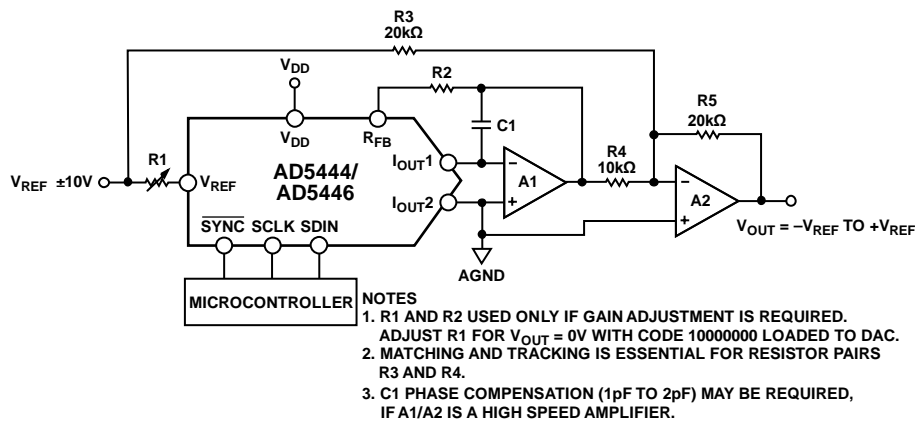

Figure 39. Bipolar Operation (4-Quadrant Multiplication)
In some applications, it may be necessary to generate a full 4-quadrant multiplying operation, or a bipolar output swing. This can easily be accomplished by using another external amplifier and some external resistors, as shown in Figure 39. In this circuit, the second amplifier (A2) provides a gain of 2. Biasing the external amplifier with an offset from the reference voltage results in a full 4-quadrant multiplying operation. The transfer function of this circuit shows that both negative and positive output voltages are created as the input data (D) is incremented from code zero ( $V_{OUT} = -V_{REF}$ ) to midscale ( $V_{OUT} = 0\text{ V}$ ) to full scale ( $V_{OUT} = +V_{REF}$ )
An optional compensation capacitor ( $C1$ ) can be added in parallel with  $R_{FB}$  for stability, as shown in Figure 38 and Figure 39. Too small a value for  $C1$  can produce ringing at the output, while too large a value can adversely affect the settling time.  $C1$  should be found empirically, but 1 pF to 2 pF is generally adequate for the compensation.